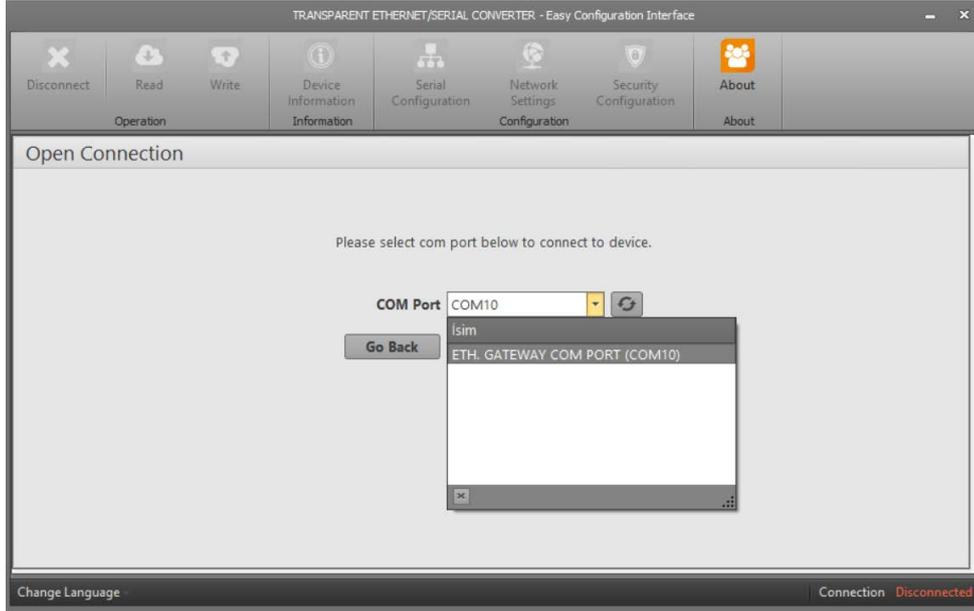

Figure 3-2 COM Port Selection
If the TES is connected to the PC via the USB cable, the virtual COM port which TES will be listed in the software as shown in Figure 3-2. If the correct port does not appear on the list, the list can be by updated clicking the “Refresh” button.
**NOTE:** If the virtual serial port to which TES connects is not known, it can be selected as shown in Figure 3-2. After the correct port is selected, software connection to device is ensured by pressing “Connect” button.